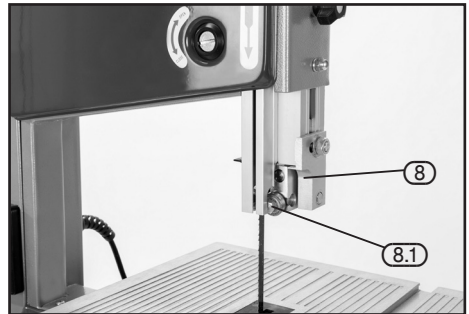

FIG. 16
9.8 ADJUSTING THE UPPER BLADE GUIDE ASSEMBLY – FIGS. 16 – 17